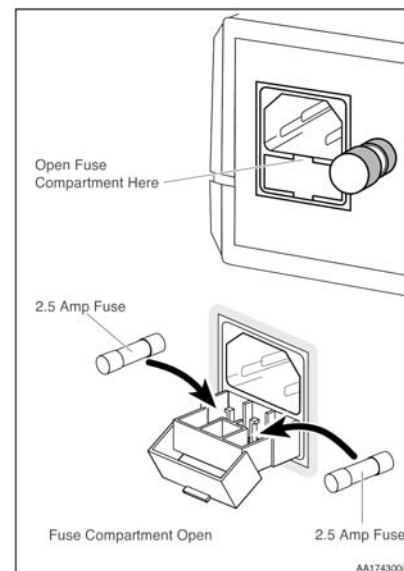

Figure 4 International Fuse Replacement
2. Open the fuse compartment, as shown in Figure 4.